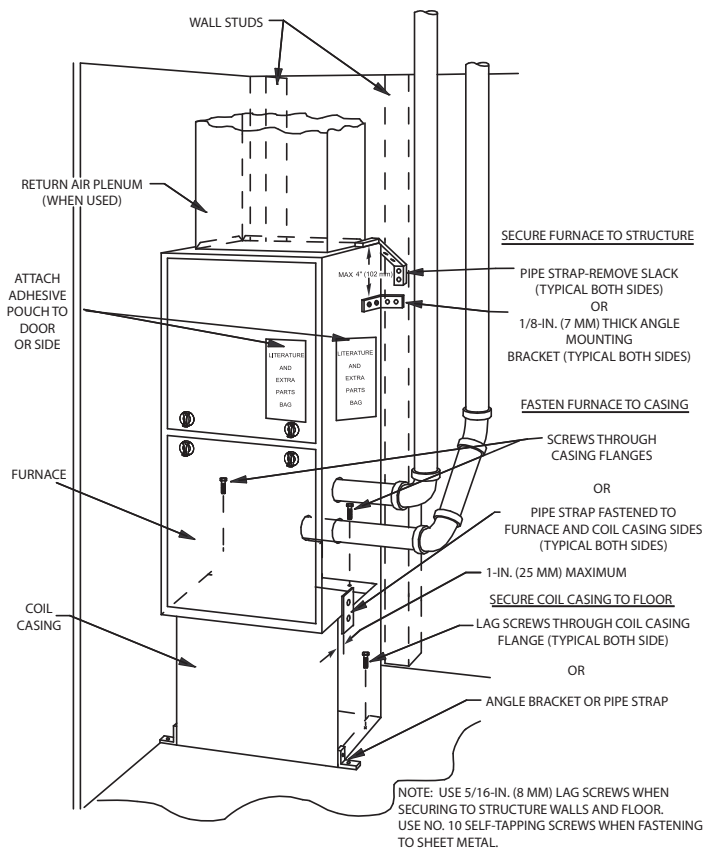

Fig. 1 – Securing Furnace to Structure
Attach adhesive pouch containing literature packet and gas conversion parts to outside of main furnace door or accessible side of furnace for use at a later date. (See Fig. 1)
4. Attach adhesive pouch containing gas orifices and Installation Instructions to front of main furnace door or accessible furnace side. See Fig. 1 or Fig. 21.
RECOMMENDED METHODS OF SECURING FOR TYPICAL INSTALLATION (See Fig. 1)